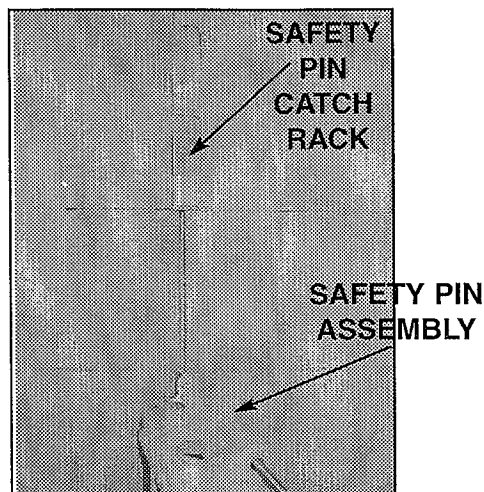

Figure 14
11. Check that safety pin “catch” tracks are in same corners as are safety pins on top of carriage. See Figure 14.